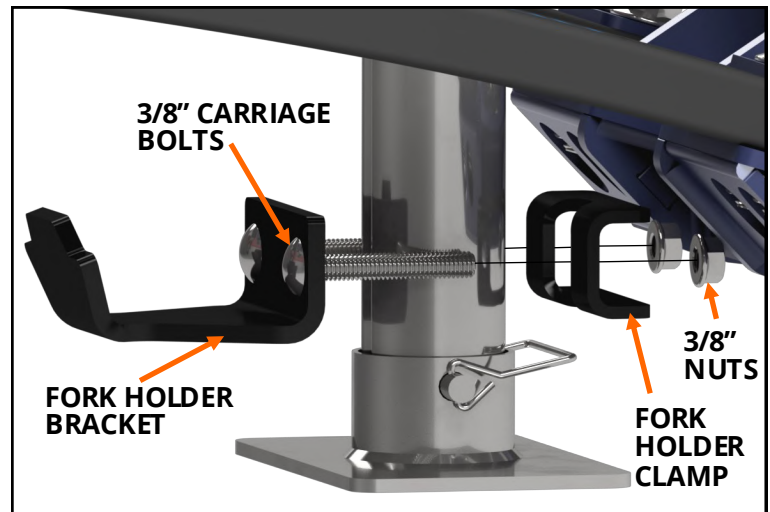

FIGURE H1: View of the jack foot under the trailer.
1. **Install fork holder bracket.** Retrieve the fork holder bracket, fork holder clamp, two 3/8" carriage bolts, and two 3/8" nuts. Insert the two carriage bolts into the fork holder bracket, and then place the assembly around the leg of the jack stand. Attach the fork holder clamp to the fork holder bracket using the 3/8" carriage bolts, and then secure it with the two 3/8" nuts. The bracket must be aligned so it is in front of the tongue jack and above the jack foot, see **Figure H1**. Torque the 3/8" nuts to 30 ft.-lbs.